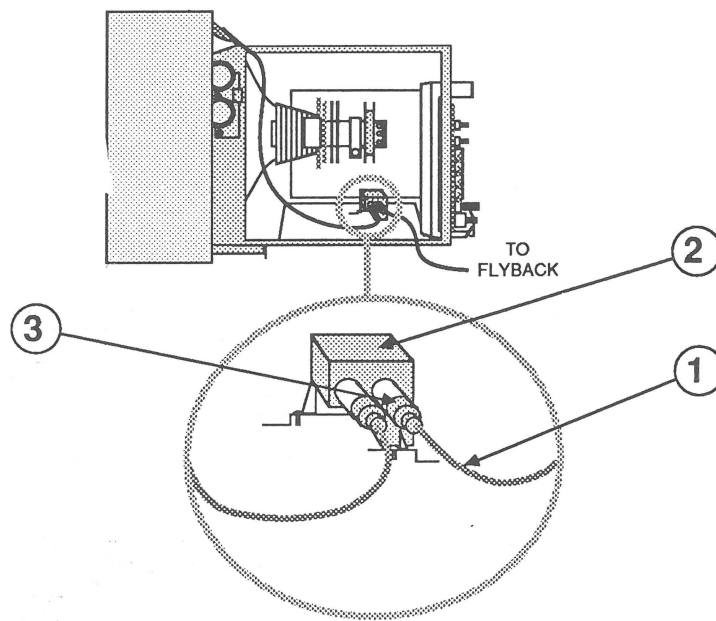

FIGURE 16
Note: For simplicity, Figure 16 shows the wire and high-voltage capacitor, but does not show the logic board and flyback.
8. Set the logic board down beside the chassis on the workbench surface. At this point, the logic board is free except for the rubberized wire (Figure 16, #1) that connects the flyback to the high-voltage capacitor (Figure 16, #2) on the floor of the monitor.
9. To release the flyback wire, first peel back the wire's rubber boot (Figure 16, #3) from the opening in the plastic capacitor housing. Then insert needlenose pliers into the opening in the plastic housing, and grasp the wire as close as possible to the capacitor. Push the wire in (toward the capacitor), rotate it one-quarter turn counterclockwise, and pull the wire out. The wire will come out easily once it has been rotated counterclockwise. (This procedure can be a little tricky—you may have to try it a couple of times.) Lift the logic board free.
1. Insert the flyback wire (Figure 16, #1) in the right-hand opening in the plastic capacitor housing. Push in firmly and turn the wire one-quarter turn clockwise. Tug on the wire to make sure it is firmly seated. Replace the wire's rubber boot (Figure 16, #3) around the opening of the plastic capacitor housing.